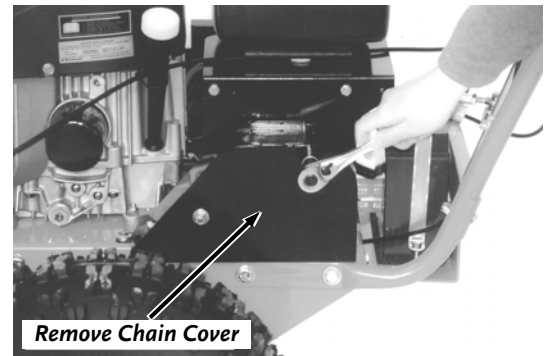

Figure 14
2. You should lubricate the Drive Chain with SAE 30 oil every 25 operating hours—more often if you operate the machine in extremely dusty or wet conditions. Remove the Chain Cover, lubricate the Chain, and replace the Cover (**Figures 14 & 15**).